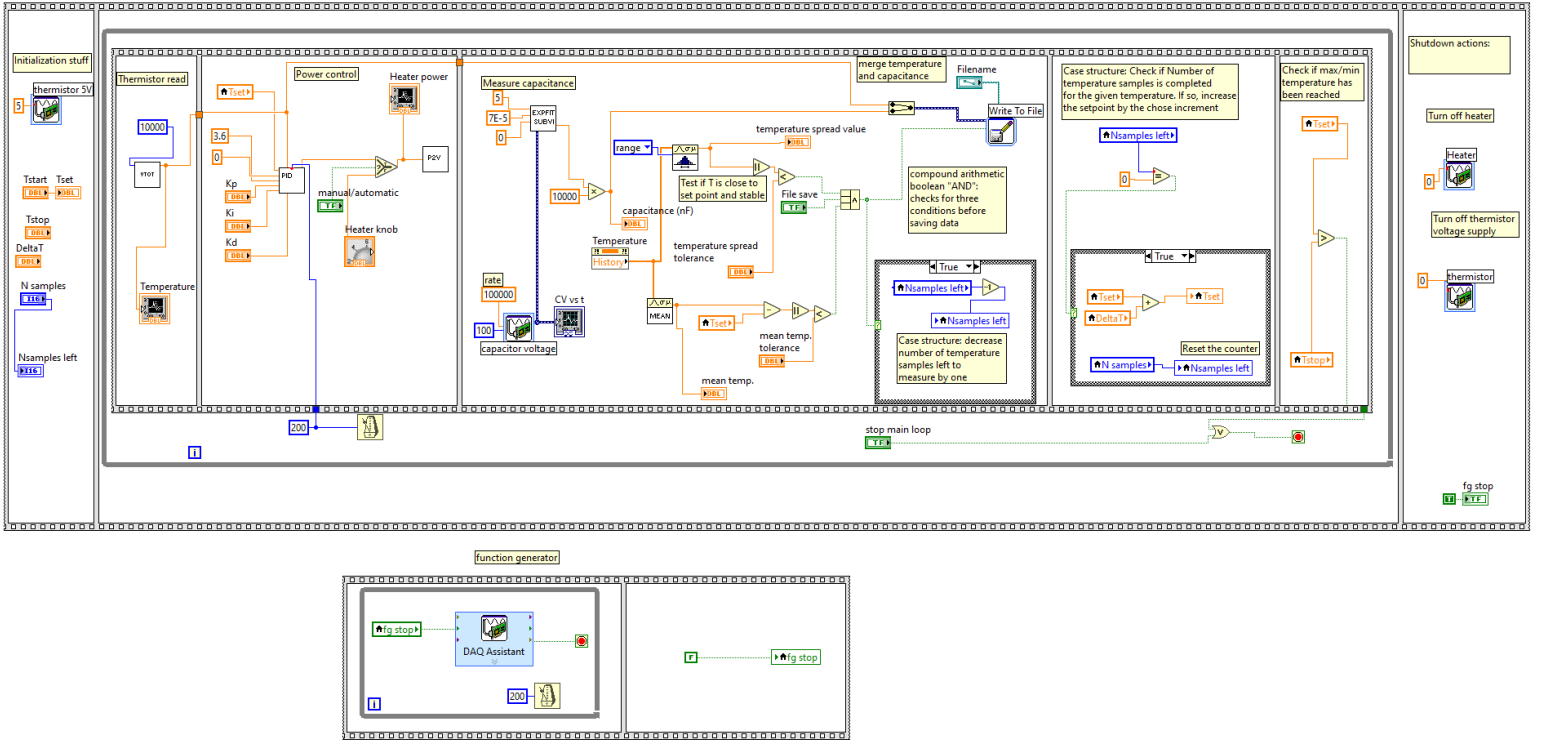

Figure 1: Block diagram of the starting VI, showing the overall structure.
Question 2. Review the LabVIEW VI illustrated Fig. 1 and the general description of it below. Construct a **flow chart** that summarizes the flow of the logical steps in the proposed measurement VI. It need not use official LabVIEW symbols but should indicate clearly the logical decisions that will be needed in the VI.
1. **Data acquisition (LabVIEW):** We begin by considering the overall structure of our program. Figure 1 shows a suggested VI configuration. Actual details may differ according to individual choices (there are VIs that do the same thing, and you may want more indicators to monitor/debug things). Note that it has three frames in the main sequence: an initialization section, the main **While** loop, and a final section. We consider each frame in turn.